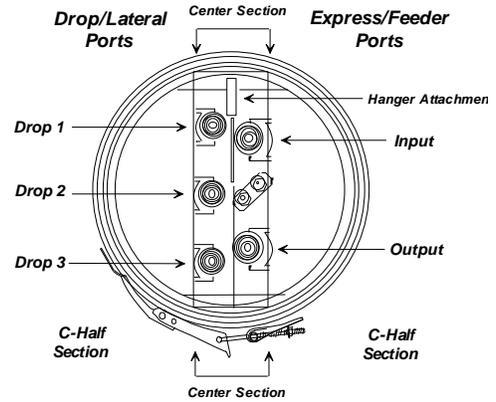

Figure 3 - Cable Port Selection Guide
5.02 The port closest to the center sections hanger attachment is used for the first cable entering either side. Refer to **Figure 3 - Cable Port Selection Guide**.